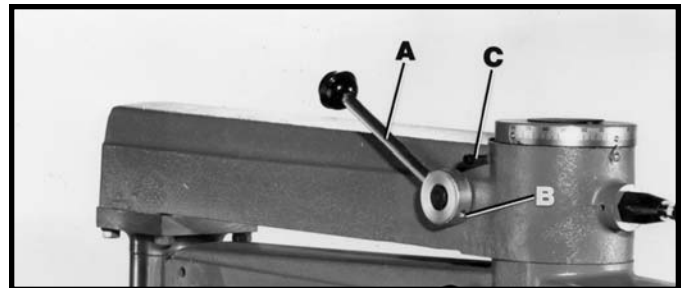

Fig. 7
Assemble track-arm lock handle (A) to the overarm, as shown in Fig. 7, and tighten set screw (B). Lock handle (A) should be tight when in the position shown in Fig. 7, and loose when pulled forward and resting against stop (C).